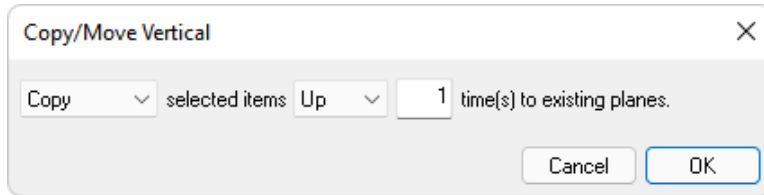

FIGURE 6-3
- Click on the drop-down box labeled *To* and select **Up**. This will change the *Copy/Move Vertical* window to be as shown in **FIGURE 6-3**.